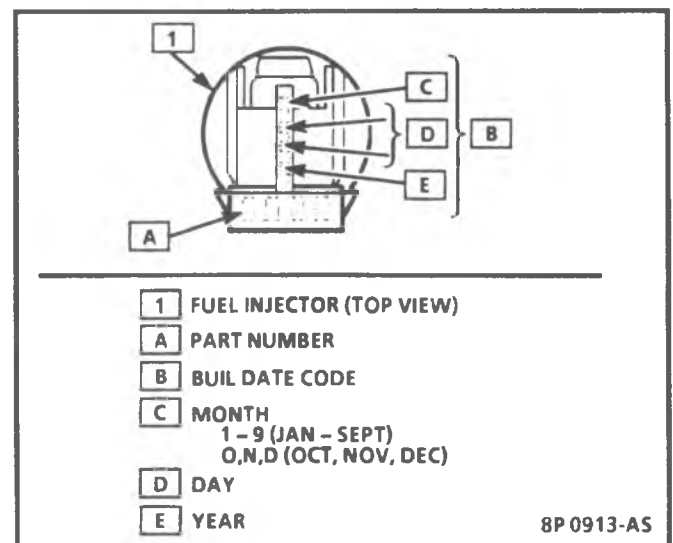

Figure 4-35 - Fuel Injector Part Number Location TBI 700
- Be sure to replace the injector with an identical part. Injectors from other models can fit in the Model 700 TBI, but are calibrated for different flow rates. (See Figure 4-35 for part number location.)